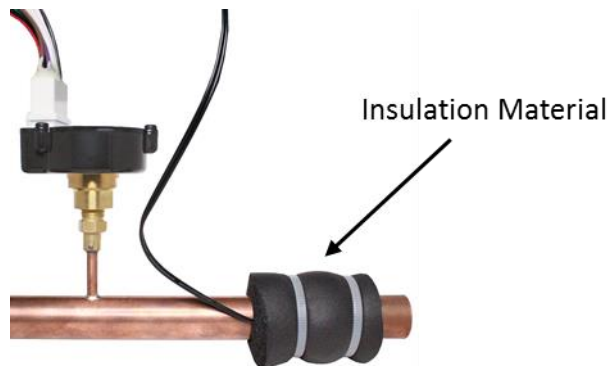

Figure 2-9 Insulation secured to the thermistor
- 11.** Wrap the thermistor with the insulation material and secure the insulation in place using a zip tie. The final result should be similar to what is shown below in **Figure 2-9**.